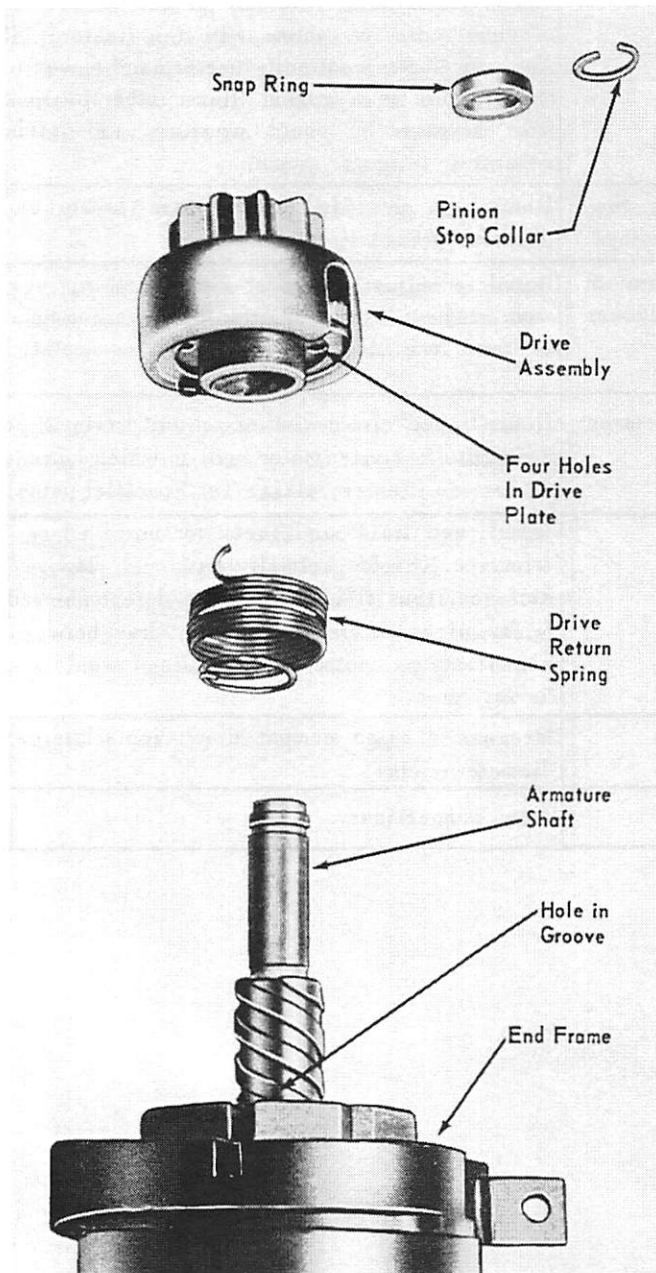

Figure 1. Delco-Remy Inertia Type Drive Assembly
4. Remove drive and spring in order shown in Figure 1.
C. REASSEMBLY (Figure 1)